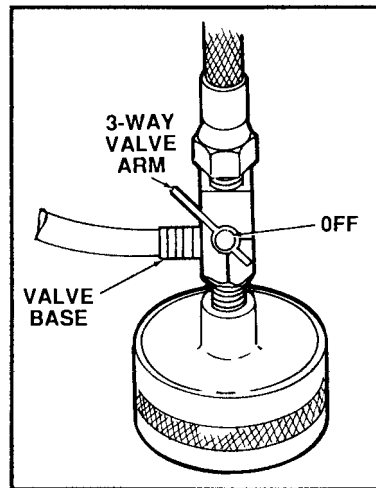

Figure 2.7 Three-Way Valve
- a. The three-way valve must be in the OFF position *before* attaching the sampler to the remote assembly the valve is closed or off when the valve arm is positioned approximately forty-five degrees from the base of the valve (Figure 2.7).
- a. Follow the procedure for connecting the sampler valve hose assembly to the quick-release valve as described in Section 2.3.6. Refer to Figures 2.7, 2.8, and 2.9.
- c.** When collection is completed, turn the three-way valve to the **OFF** position (Figure 2.7) before turning off the system pump.